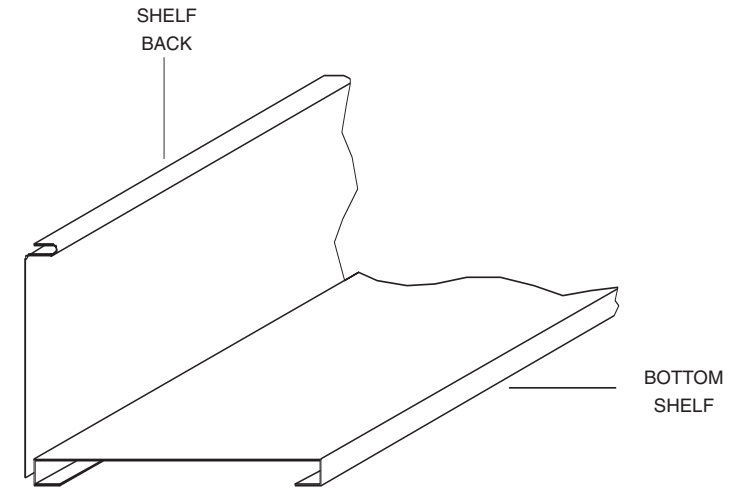

FIG. 1
1. Carefully slide bottom of "shelf back" between the panel fabric and the bottom shelf (Figure 1).
1. Assemble the cabinet back, the left and right side panels and the mounting brackets together by inserting the holes in the side panels and mounting brackets over the studs on the cabinet back (Figure 1). Loosely fasten the parts together with (6) flange nuts. DO NOT tighten the nuts at this time.